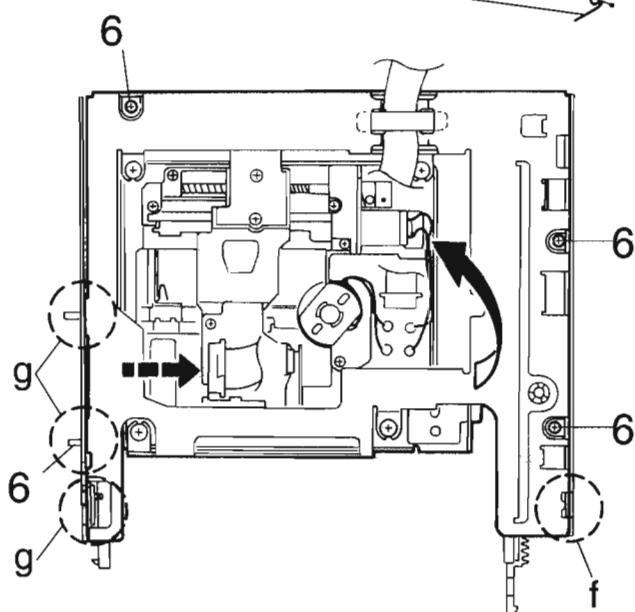

Fig.11
■ Removing the Traverse mechanism (see Fig.11 -14)
2. Remove the four screws 6 attaching the Traverse mechanism mounting assembly. Lift the assembly to release the joint (f) (see Fig.14), and move it in the direction of the arrows (see Fig.11) to release the joint(g) (see Fig.11,13 and 14).